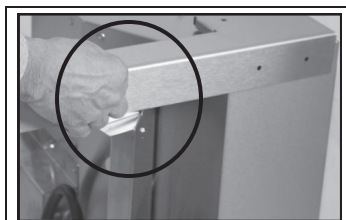
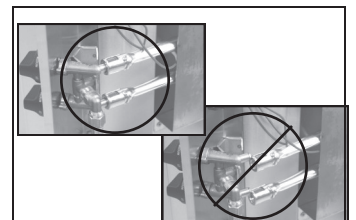

Fig. 3
Fig. 4
3. Flip the grill over and attach the 2 short legs to the left side of the grill pit bottom. Use two 10-24 x 1/2" Pan Head Bolts for each leg. Insert bolts from outside of grill pit and fasten with 10-24 kep nuts. **Note: When attaching front legs make sure the control panel tab is tucked behind the front legs as shown in (Fig. 3) The valve stems must be seated properly in the venturi tubes as shown in (Fig. 4) before tightening.**